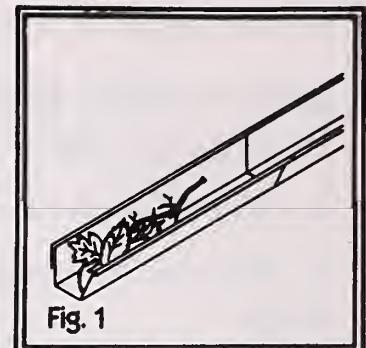

Fig. 1
2. Remove all leaves and other debris from the gutters and check for loose joints (fig. 1.)